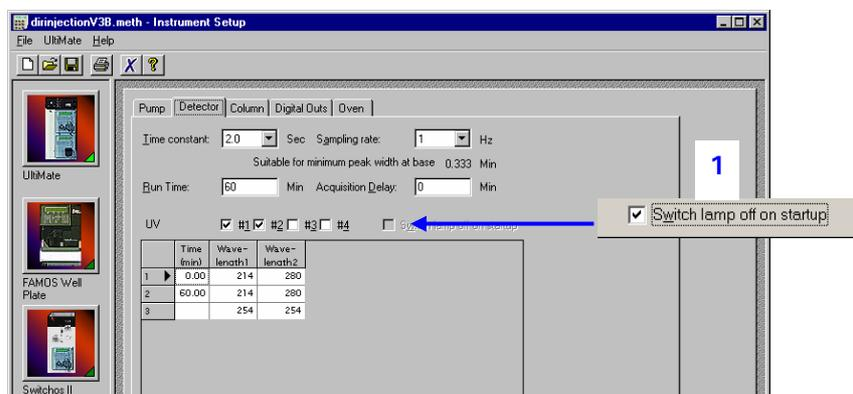

FIGURE 2-28 The UV Detector Setup Window
- Choose the **Detector** tab in the **Instrument Setup** window to display the detector setup window (FIGURE 2-28).
- Fill out the detector parameters (e.g. Time constant, Sampling rate, Run Time, etc.). The checkboxes 'UV #1, #2, #3, #4' determine how many channels are used to collect data, the appropriate number of 'Wavelength #n' columns are represented in the detector timetable. If the detector is not used (temporarily), uncheck all 'UV #n' boxes and check the 'Switch off the on startup' box (item 1, FIGURE 2-28).